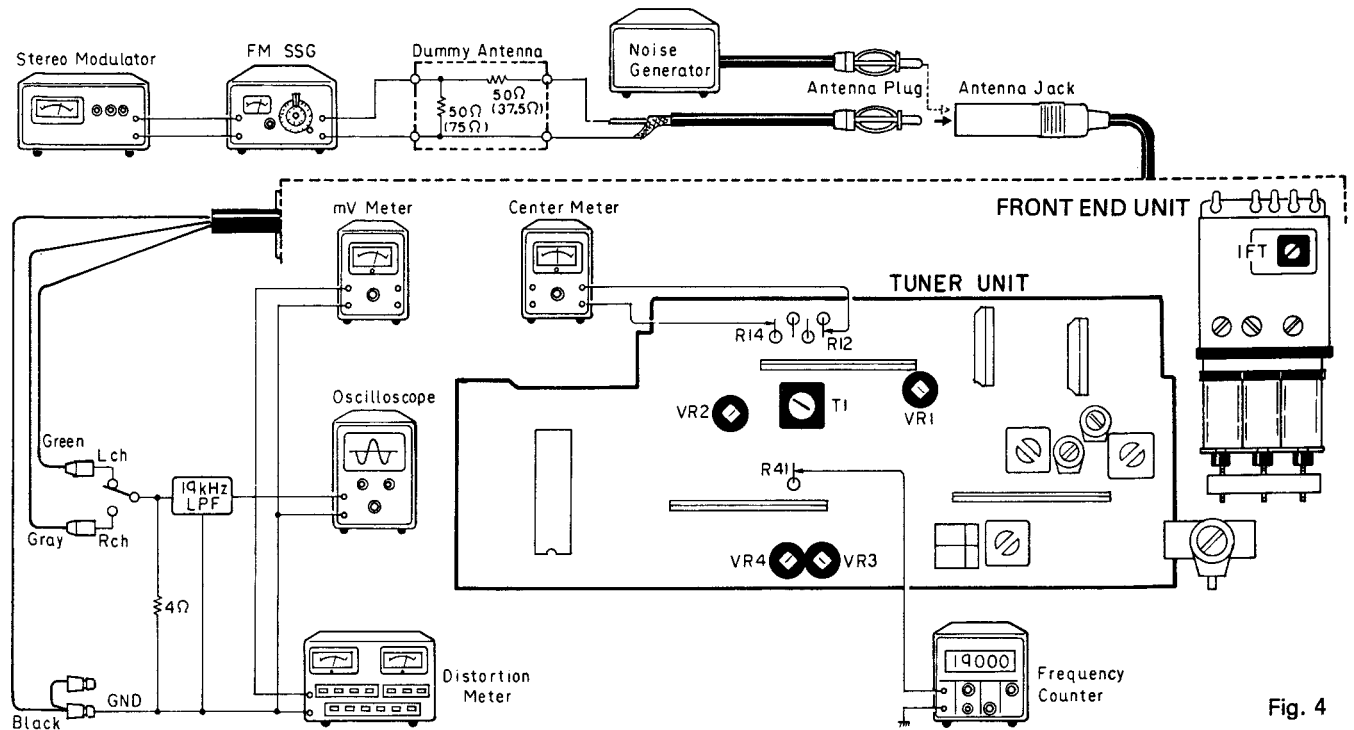

Fig. 4
• Connection Diagram (shown in Fig. 4)